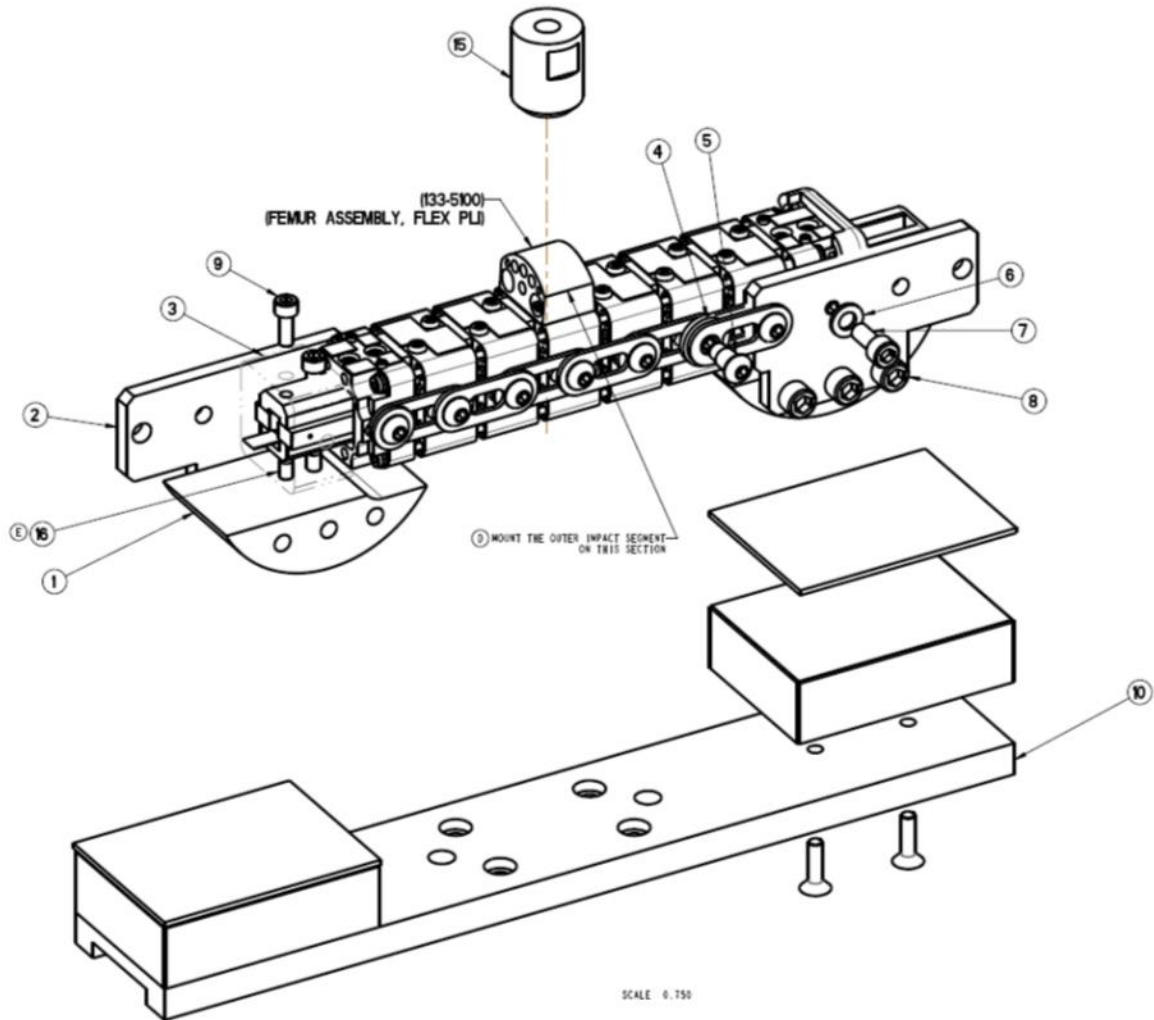
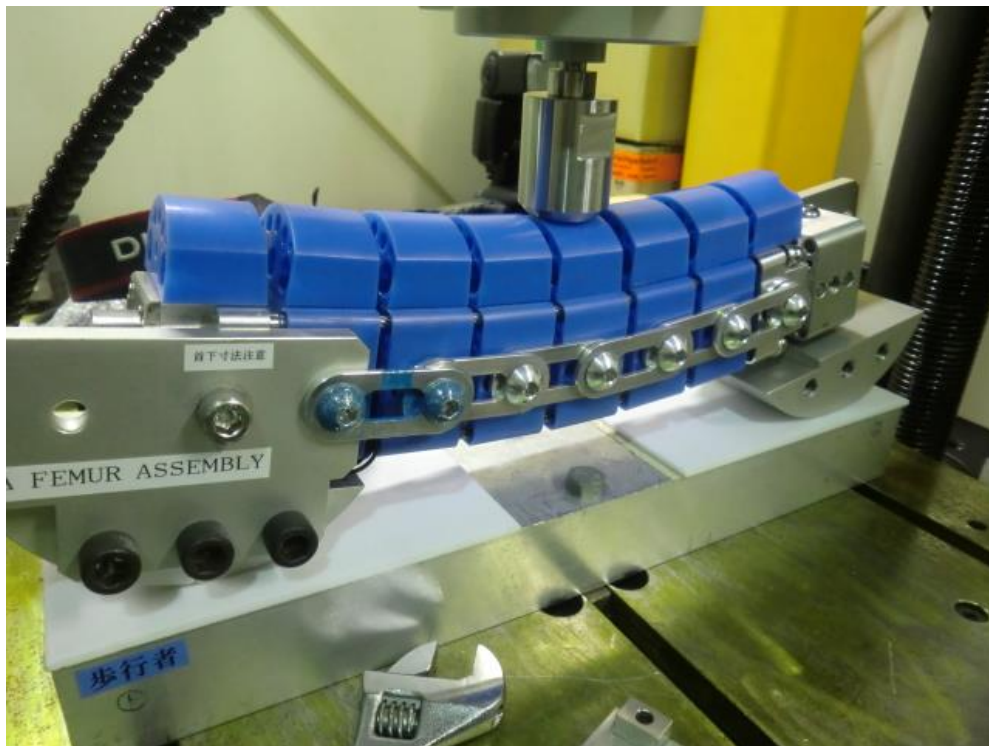

Figure 79 Bone and knee fixture 133-8120 for static assembly bending test femur shown
Figure 81 Bone Assembly Fixture (femur shown under bending)
Assemble the bone to the 133-8120 fixture; see drawing Figure 79 for details. Place the assembled fixture over the Teflon sheets see Figure 81. Do not tighten the two cap head screws item 7 in Figure 79 at the end segments of the assembly to allow free rotation.